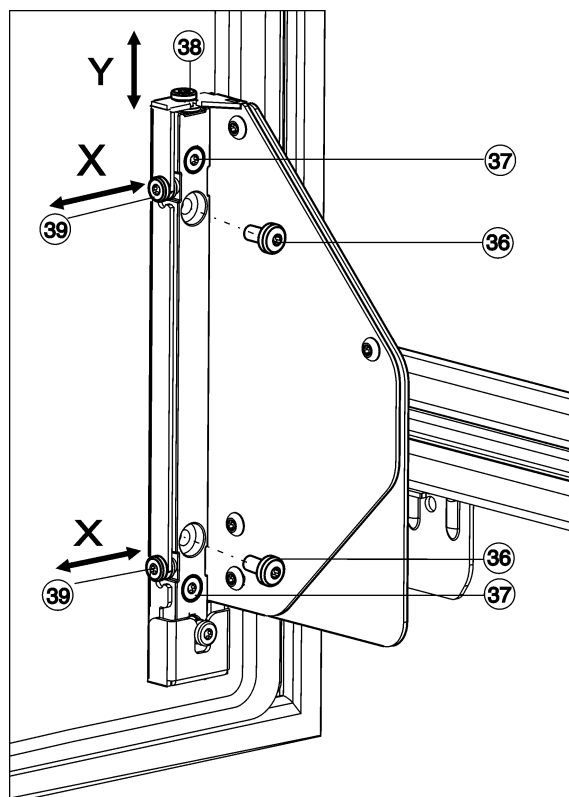

Fig. 31
- Fully screw out the screws Fig. 31 (36).
- Dispose of the screws Fig. 31 (36) as they will no longer be needed.
- Only loosen the screws Fig. 31 (37) with 1 to 2 turns.
- Turn the adjusting screw (38). In a clockwise direction: the door moves max. 4 mm upwards. In an anticlockwise direction: the door moves max. 2 mm downwards.
- Retighten all screws Fig. 31 (37).
- If the screws Fig. 31 (36) are still present, unscrew them fully.
- Adjust the adjusting screws Fig. 31 (39) according to the desired lateral adjustment direction.
- ▶ Retighten the screws *Fig. 31 (37)* after the lateral adjustment is complete.